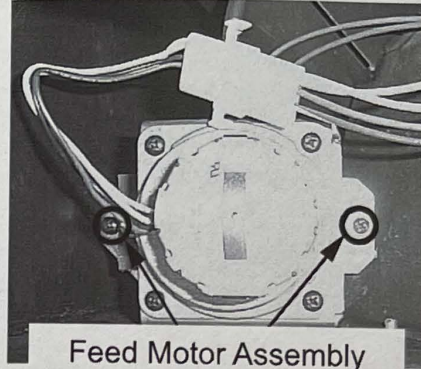

Figure 4
2. Remove the two (2) screws/bolts from the feed motor mount (Figure 4).